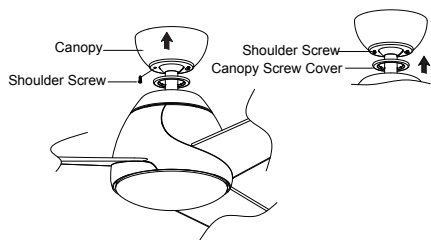

Fig. 12
**Step 9.** Assemble canopy by rotating key slot in canopy over shoulder screw in hanger bracket. Tighten shoulder screw. Fully assemble and tighten second shoulder screw that was previously removed. Securely attach and tighten the canopy screw cover over the shoulder screws in the mounting bracket utilizing the keyslot twist-lock feature. (Fig. 12)